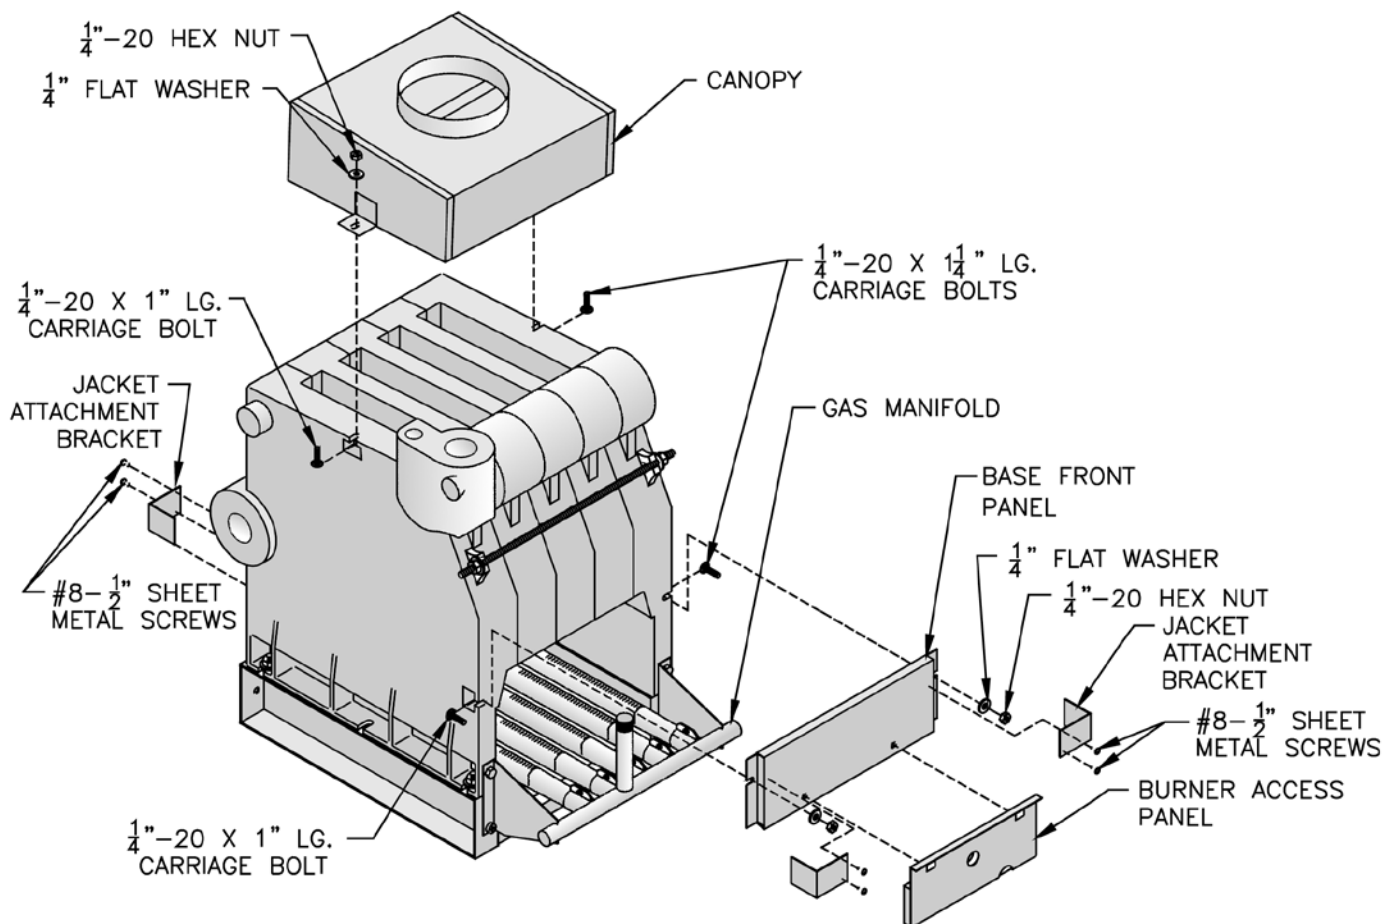
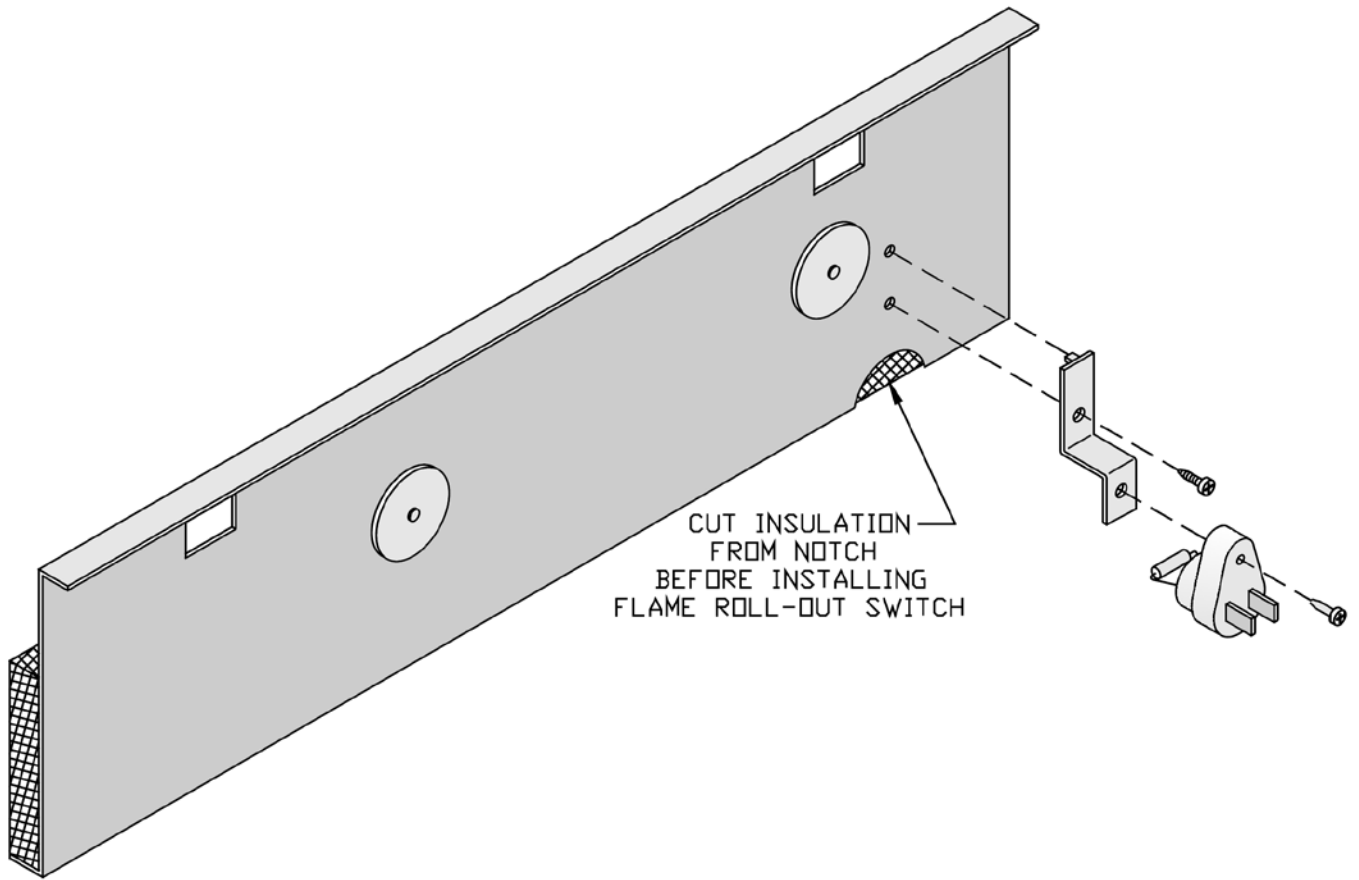

Figure 5: General Assembly (Knockdown Boilers)
Figure 6: Flame Roll-out Switch Installation
G. Confirm that one (1) Flue Baffle is properly positioned in each Boiler Flueway. Tabs at the top of each Flue Baffle should be resting on top row of Flue Pins on each adjoining section.
H. Install Canopy on section assembly. See Figure 5. Canopy and hardware are located in Combination Boiler Parts and Control Carton.
J. Install Base Front Panel. See Figure 5. Panel and hardware located in Combination Boiler Parts and Control Carton.
M. Attach Flame Roll-out Switch to Burner Access Panel. See Figure 6. Flame Roll-out Switch and hardware are located in Combination Boiler Parts and Control Carton. Flame Roll-out Switch is a single use device - do not test with heat - switch cannot be reset.
1. Cut insulation from semicircular notch at right end of the burner access panel. Models 808H - 810H have two (2) burner access panels. Remove insulation from notch of right side burner access panel only.
2. Attach Flame Roll-out Switch Mounting Bracket to burner access panel with (1) #8 x ½" lg. sheet metal screw.
3. Attach Flame Roll-out Switch to mounting bracket with (1) #8 x ¾" lg. sheet metal screw.
N. Install Burner Access Panel(s). Locate Burner Access Panel(s) in Combination Boiler Parts and Control Carton. Engage Burner Access Panel holes with projections on Base Front Panel. See Figure 5.
1. Locate four (4) Jacket Attachment Brackets in Combination Boiler Parts and Control Carton. Attach to Front Base Panel and Rear Base Panels with #8 sheet metal screws. See Figure 5.
4. Attach Upper Rear Panel to Lower Rear Panel. Do not install three (3) upper screws.